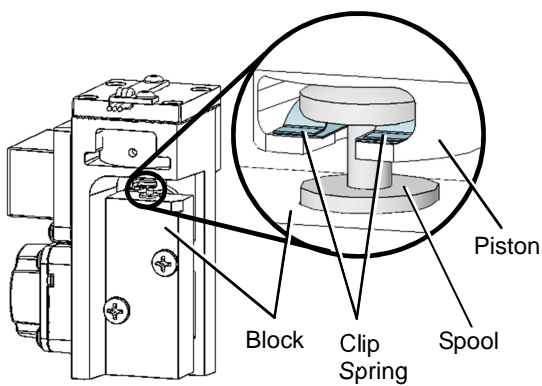

Figure 31: Clip Spring Orientation
- 5 Ensure the clip spring is oriented properly on the spool. Ensure the spool is oriented properly in the block. (See Figure 31: Clip Spring Orientation.) Slide the spool/block/clip spring assembly onto the manifold ensuring the proper placement of the spool and clip spring into the piston slot.